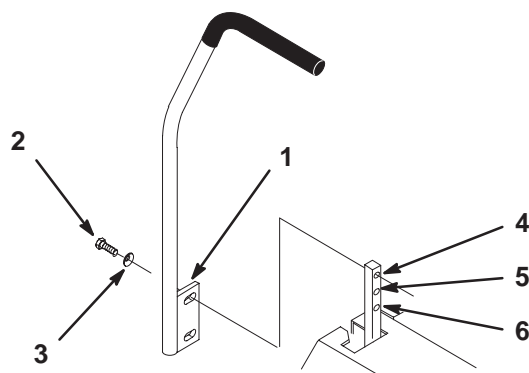

Figure 4
There are two positions to install the control levers, high and low. Install levers in the top and middle holes for the high position. Install levers in the middle and bottom holes for the low position (Fig. 4).
1. Remove the 4 bolts (3/8 x 1 inch) and 4 spring washers (3/8 inch) which attach the motion control levers to the control arm shafts for shipping (Fig. 4).
2. Place the levers (with the mounting plate toward the rear) on the outside of the control arm shaft and secure with 4 bolts (3/8 x 1 inch) and 4 spring washers (3/8 in.) (Fig. 4).
4. Align the front/rear position of the levers, with each other, in the neutral position. Loosen hardware and adjustment by sliding/tilting the lever(s) forward or backward until properly aligned (Fig. 4).